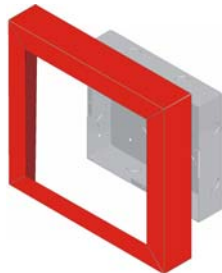

Figure 6: Installing Trim Ring
4. The Model RA-100TR red trim ring kits is available for use when surface mounting. Place the trim ring over the backbox. See Figure 6.